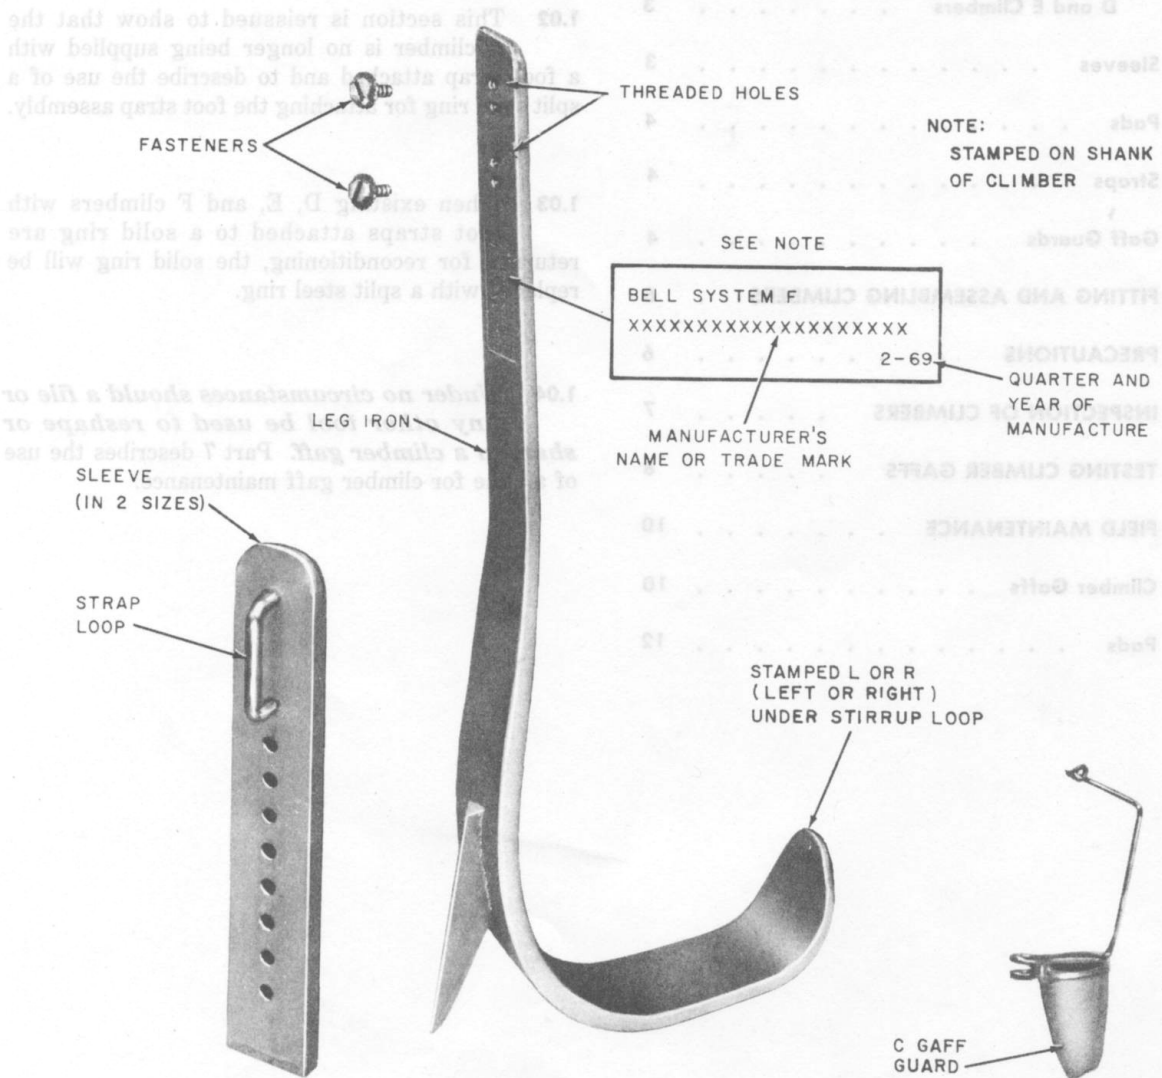

Fig. 1—Parts For F Climber
**2.01** The F climber is an adjustable length climber that consists of a leg iron, an adjustable sleeve, fasteners, and gaff guards. The parts of an F climber are shown in Fig. 1.